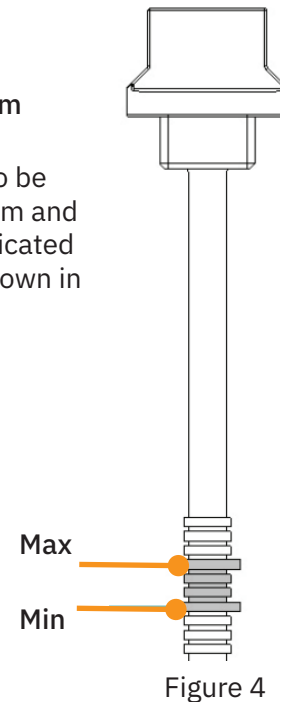

Figure 4
3. Gradually fill the buffer with oil until the oil level is visible between the minimum and maximum levels on the dipstick (indicated on figure 4)
6. Remove dipstick and inspect level. The oil level needs to be between the minimum and maximum marks indicated on the dipstick as shown in figure 4.
The oil level needs to be between the Minimum and Maximum marks indicated on the dipstick as shown in figure 4
4. Remove dipstick and inspect level. The oil level needs to be between the minimum and maximum marks indicated on the dipstick as shown in figure 4.